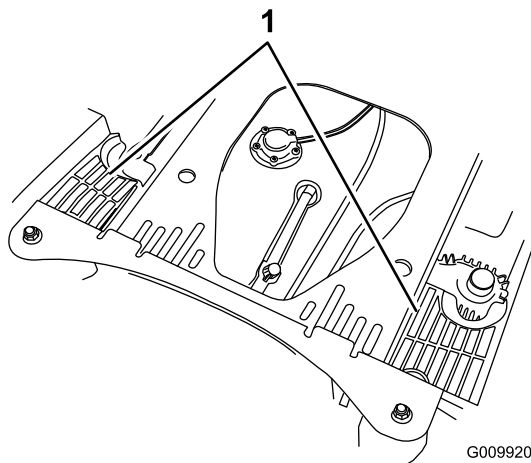

Figure 80
4. Clean the debris and grass from the hydraulic unit shrouds (Figure 80).